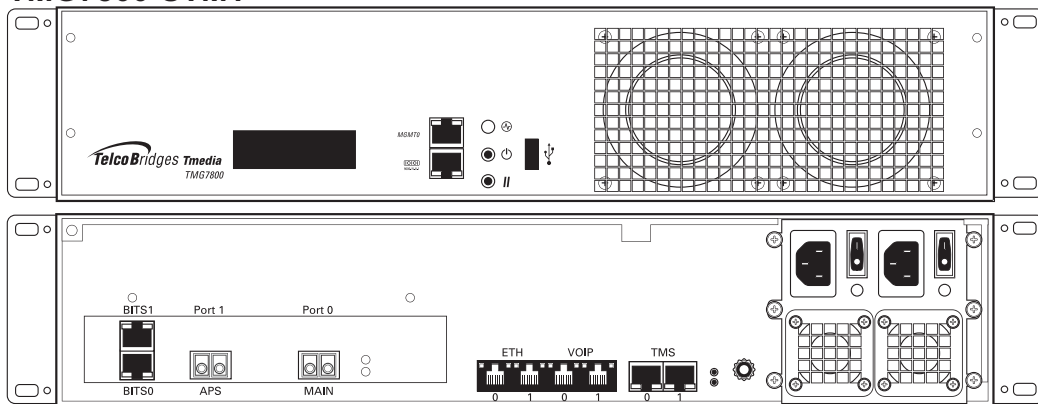

Figure 1.2 TMG7800 Telecom Units Front and Rear Views
- One (1) to 16 TMG7800 Telecom Unit(s). See figure 1.2 on page 3.
- One (1) TMG7800 unit (TMG7800-TE, TMG7800-DS3, or TMG7800-STM1). See figure 1.2 on page 3.
- One (1) set of mounting brackets and screws, used to mount the TMG7800 to a 19" rack.
- One (1) DB-9 to RJ-45 adapter to interface the serial port of your computer with the RJ-45 port of the TMG7800.
- Three (3) CAT5 Ethernet (blue) straight cables (male-male), 3 meters in length.
- One (1) Important Notice (two-sided document containing pertinent product serial numbers, and other important information).
- One (1) Product Warranty.
- One (1) packing slip.
- One (1) Quick Installation Guide (two-sided document that provides a pictorial view of the equipment setup).
- Two (2) AC or DC power cables